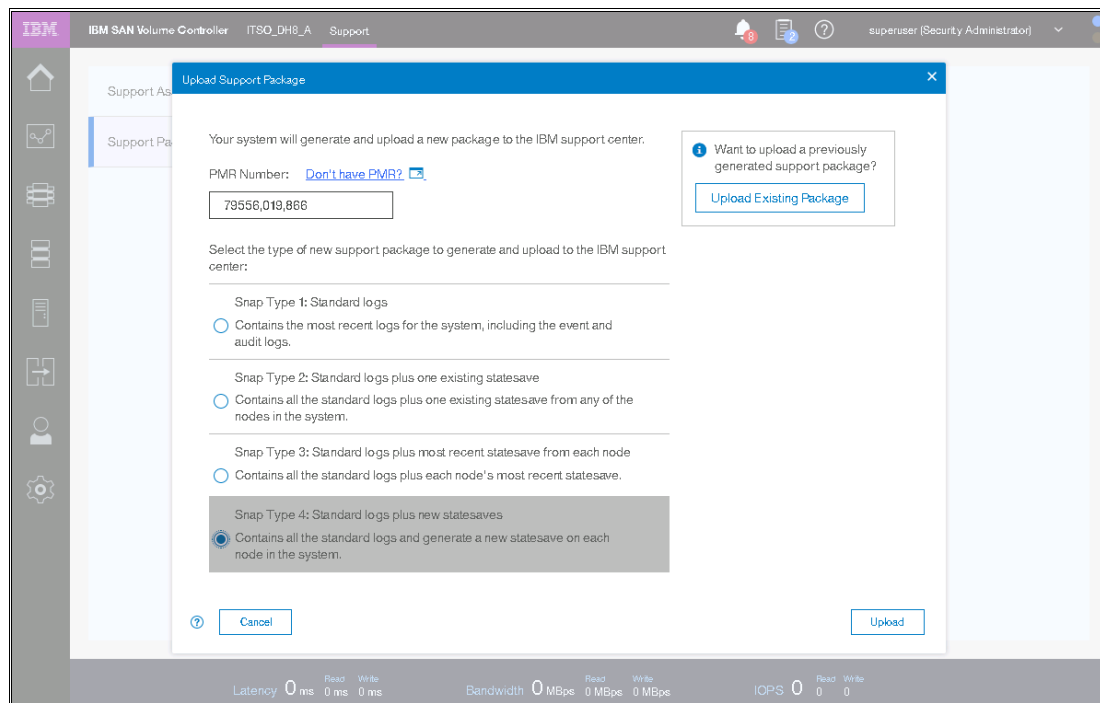

Figure 10-5 Upload Support Package panel
4. The *Upload Support Package* panel is shown in Figure 10-5.